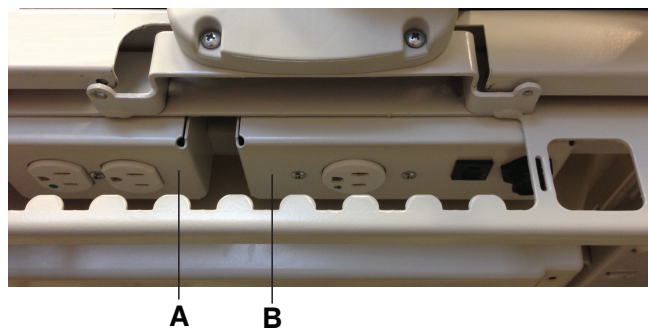

Figure 13 – InTouch auxiliary outlet options
You can use the 120 volt **InTouch** auxiliary power outlet as a built-in power source for peripheral equipment. The outlet is located beneath the foot end on the patient left side of the product (A) (see Product illustration). There is a one and two plug option for the **InTouch** auxiliary outlet (A) (Figure 13).
There is also an auxiliary mattress connector outlet for connecting a support surface option to **InTouch** (B) (Figure 13). A 5A breaker is also integrated into this power outlet.